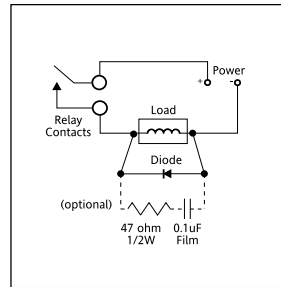

Figure 2: DC Inductive Loads
When switching inductive loads, maximum relay life and transient EMI suppression is achieved using external protection (see Figures 2 and 3). Place all protection devices directly across the load and minimize all lead lengths. For AC inductive loads, place a properly rated MOV across the load in parallel with a series RC snubber. Use a 0.01 to 0.1uF pulse film capacitor (foil polypropylene recommended) of sufficient voltage, and a 47 ohm, 1/2W carbon resistor. For DC inductive loads, place a diode across the load (PRV > DC supply, 1N4006 recommended) with (+) to cathode and (-) to anode (the RC snubber is an optional enhancement).
*Note: External relay contact protection is required for use with inductive loads (see Figures 2 & 3).*